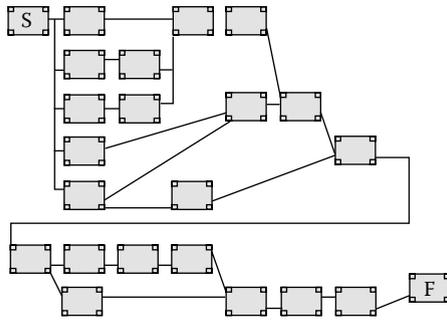

Figure 20.16 Building the logical network.
- Step 5: In building the logical network during Step 5, your team will construct their logical network from their ABS. They will continue to refine both their ABS and their PBS (Figure 20.16).